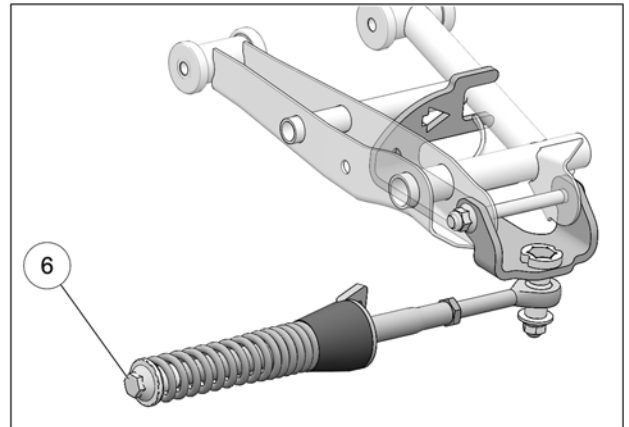

Fig. 12
11. Verify that spring assembly bolt (6) is tightened to the recommended torque specification: $75 \text{ N}\cdot\text{m}$ [$55 \text{ lb}\cdot\text{ft}$]. Refer to Fig. 12